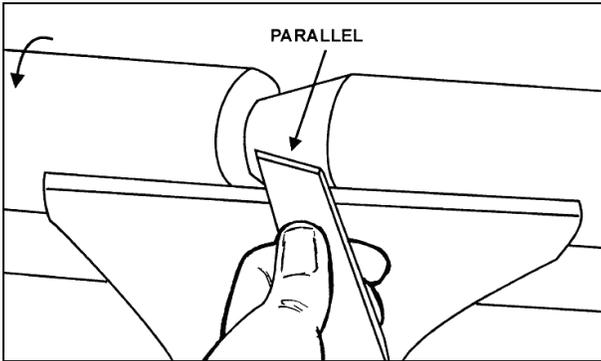

Fig 18
**Skew Chisel (C, Fig 16)**, used to make vees, beads, etc. (Fig 18). The bevel of skew is parallel to the cut.